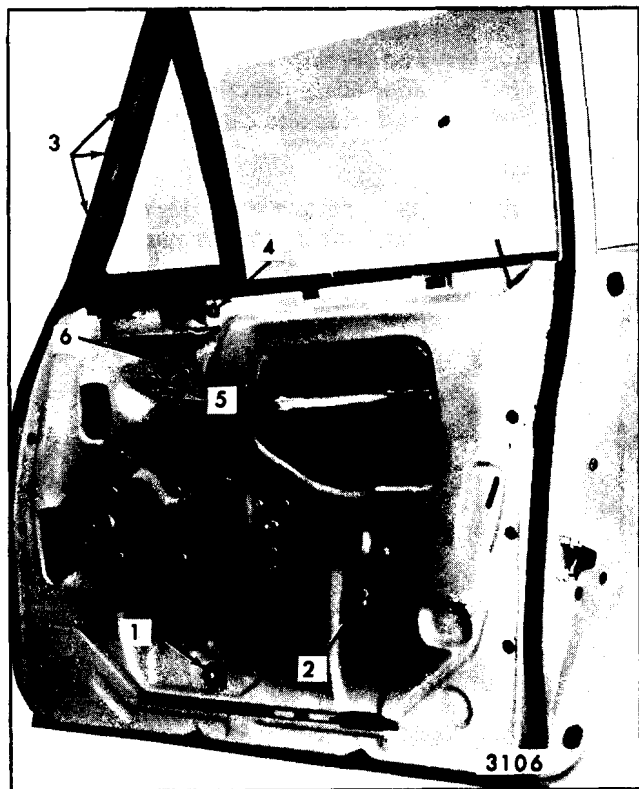

Fig. 6-62-Front Door Ventilator and Window Removal and Adjustments - "A" Closed Styles
2. Remove ventilator T-shaft bolt ("6", Figure 6-62) and ventilator regulator to inner panel attaching bolts ("4", Figure 6-62).
2. With window in up position, loosen down stop support attaching bolts and remove support ("2", Figure 6-62).
4. Lower window to full down position and remove bolt securing ventilator lower frame to door outer panel ("4", Figure 6-62).
5. Remove division channel lower adjusting stud nut ("1", Figure 6-62).
6. Remove ventilator to door upper frame attaching screws ("3", Figure 6-62). Disengage upper front end of glass run channel from door upper frame to permit rearward movement and removal of vent from door upper frame (refer to glass run channel removal procedure).
Some in-and-out, or fore-and-aft adjustment of the ventilator division channel is available at the lower adjusting stud ("1", Figure 6-62). Adjustment at this location is required only to eliminate any misalignment between the ventilator division channel and window glass run channel.